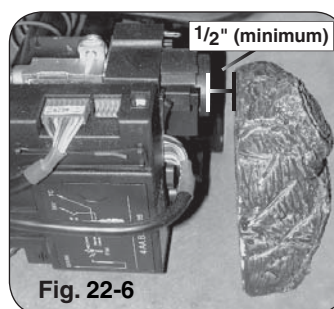

Fig. 22-6
- E. Decorative wood chip (if included) must be placed at least a 1/2 inch away from burner controls to avoid damaging the controls by overheating due to heat reflection (see Fig. 22-6).